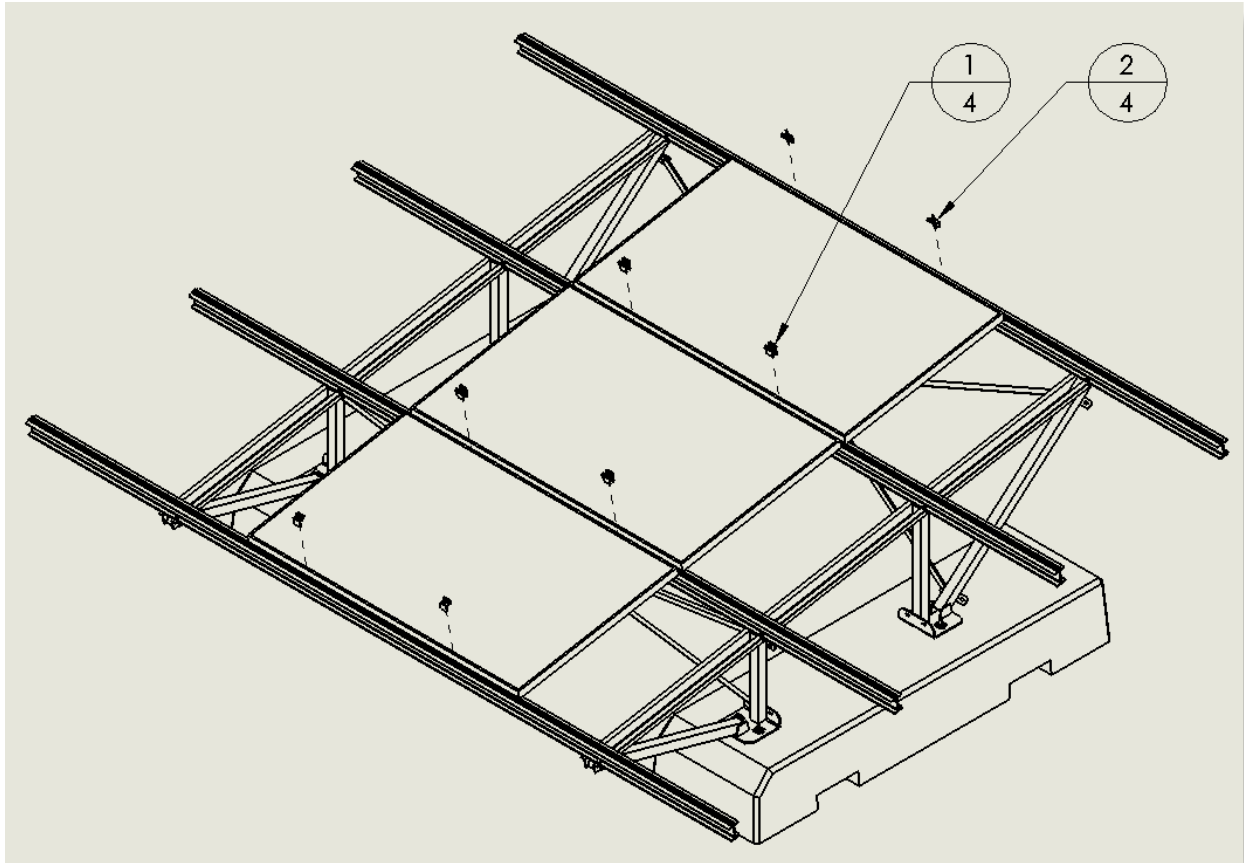
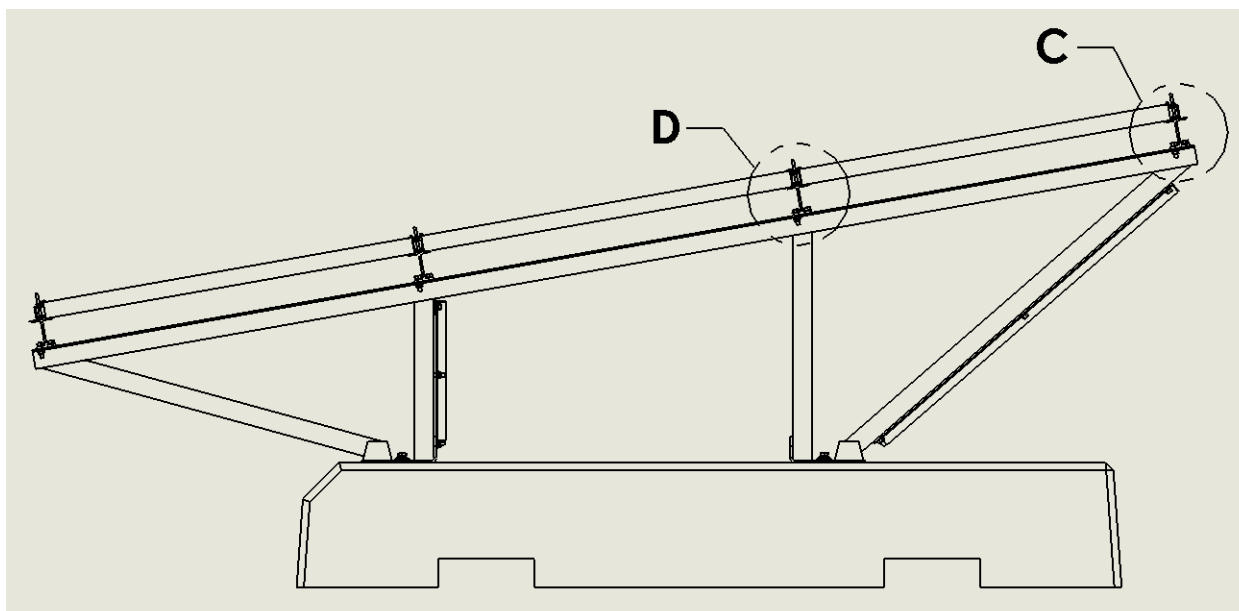

Figure 8
Figure 9
- b. HOLD THE PANELS IN PLACE USING THE CLAMPS LISTED IN TABLE 4. LOCATE THEM APPROXIMATELY AS SHOWN. THERE ARE TWO TYPES OF HOLDING CLAMPS, "H-TYPE" AND "END". THE H-TYPE CLAMPS ARE PUT INTO THE TWO CENTER MAIN CHANNELS. THE END CLAMPS ARE PUT INTO THE TOP AND BOTTOM MAIN CHANNELS. FIGURE 8 SHOWS WHERE THE CLAMPS WILL BE SET LEFT-TO-RIGHT IN THE CHANNELS. ALSO REFER TO FIGURES 9, 10 AND 11.